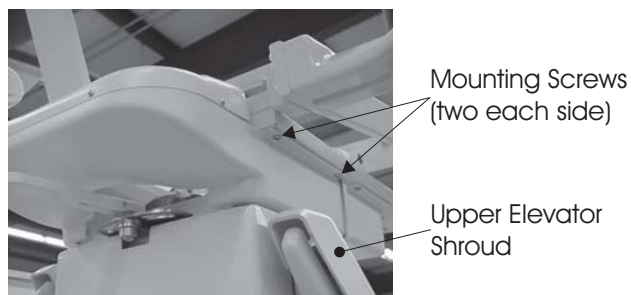
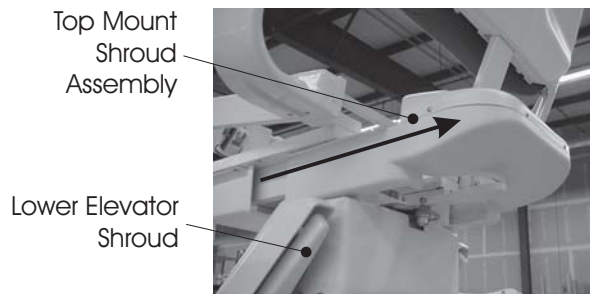

Figure 1.
Figure 2.
- 2 Remove the Top Mount Shroud Assembly, to do this first remove the "four" Mounting Screws (two each side), See Figure 1. Then slowly slide the Top Mount Shroud Assembly away from the chair as shown, See Figure 2.